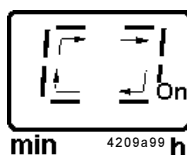
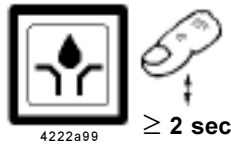

Fig. 19 - Green rotating display, operating time
Fig. 21 - Pushbutton for additional lubrication cycle
- is initiated via the button (fig. 21). Press the button for more than 2 seconds. Then, the rotating segment (fig. 19) becomes visible on the key pad.